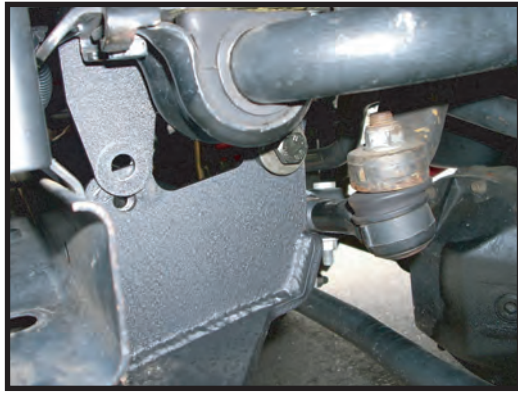
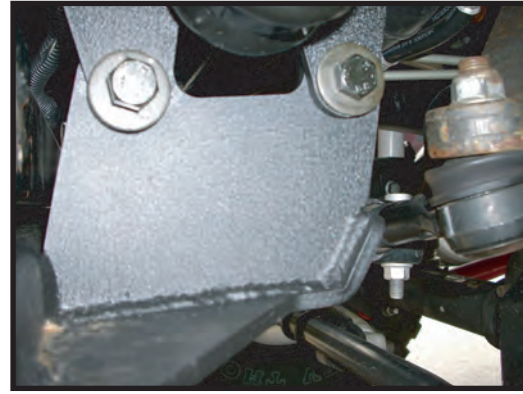

Figure 3a
Figure 3b
3. Position Skid Plate Weldment under vehicle and lift. Align and install rearmost Bolt on both sides (Figure 3a) but leave loose. Then, install front Bolts (Figure 3b) and leave loose. Note - Washers to be installed under bolt heads as illustrated in diagram on page 1.